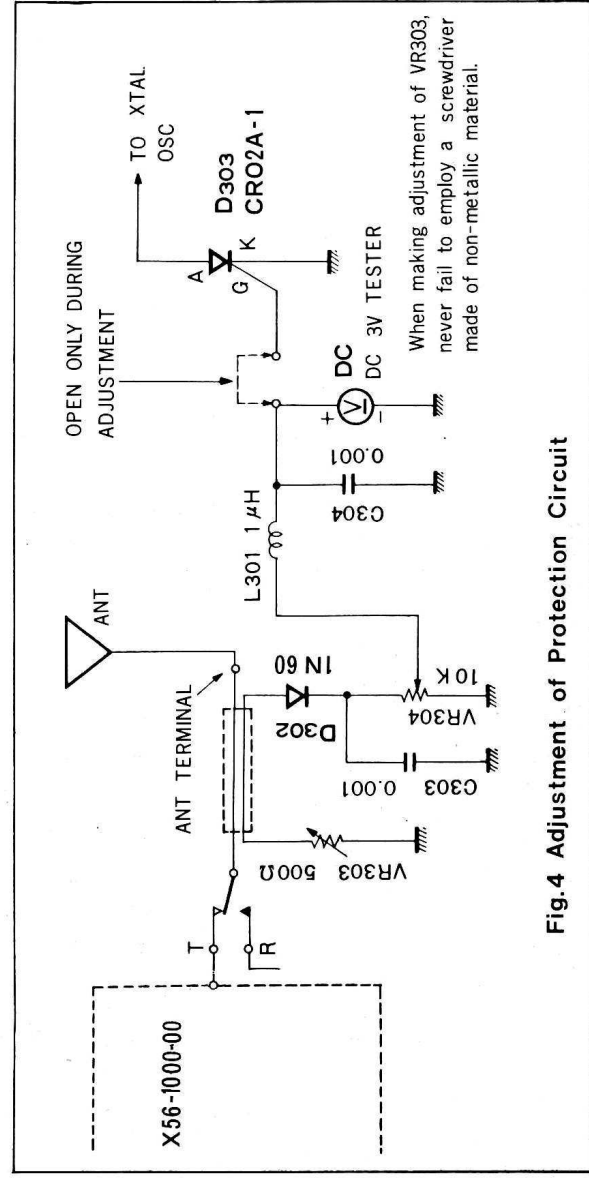

Fig.4 Adjustment of Protection Circuit
- (1) First, connect the transmitter unit normally to the antenna through the protection circuit as shown in Fig. 4.
- (2) Open the protection circuit at the points connected by the dotted line in the figure.
- (3) With variable resistor VR304 turned to the extreme position at diode D302 side, place the transmitter unit in the transmitting condition.
- (4) Adjust variable resistor VR303 until the DC 3V tester gives the minimum indication. (If the protection circuit is adjusted well, the tester will indicate a value of approx. 0.02 V).
- (5) Then, disconnect the antenna from the antenna terminals.
- (6) Adjust variable resistor VR304 quickly (within 30 seconds) until the tester reads 0.6 V.
- (7) Restore the protection circuit to the original condition by reconnecting the points which are opened in step (2). This completes adjustment of the protection circuit.
- (8) Short or open the antenna terminals under the above condition to check to see that the protection circuit operates securely.